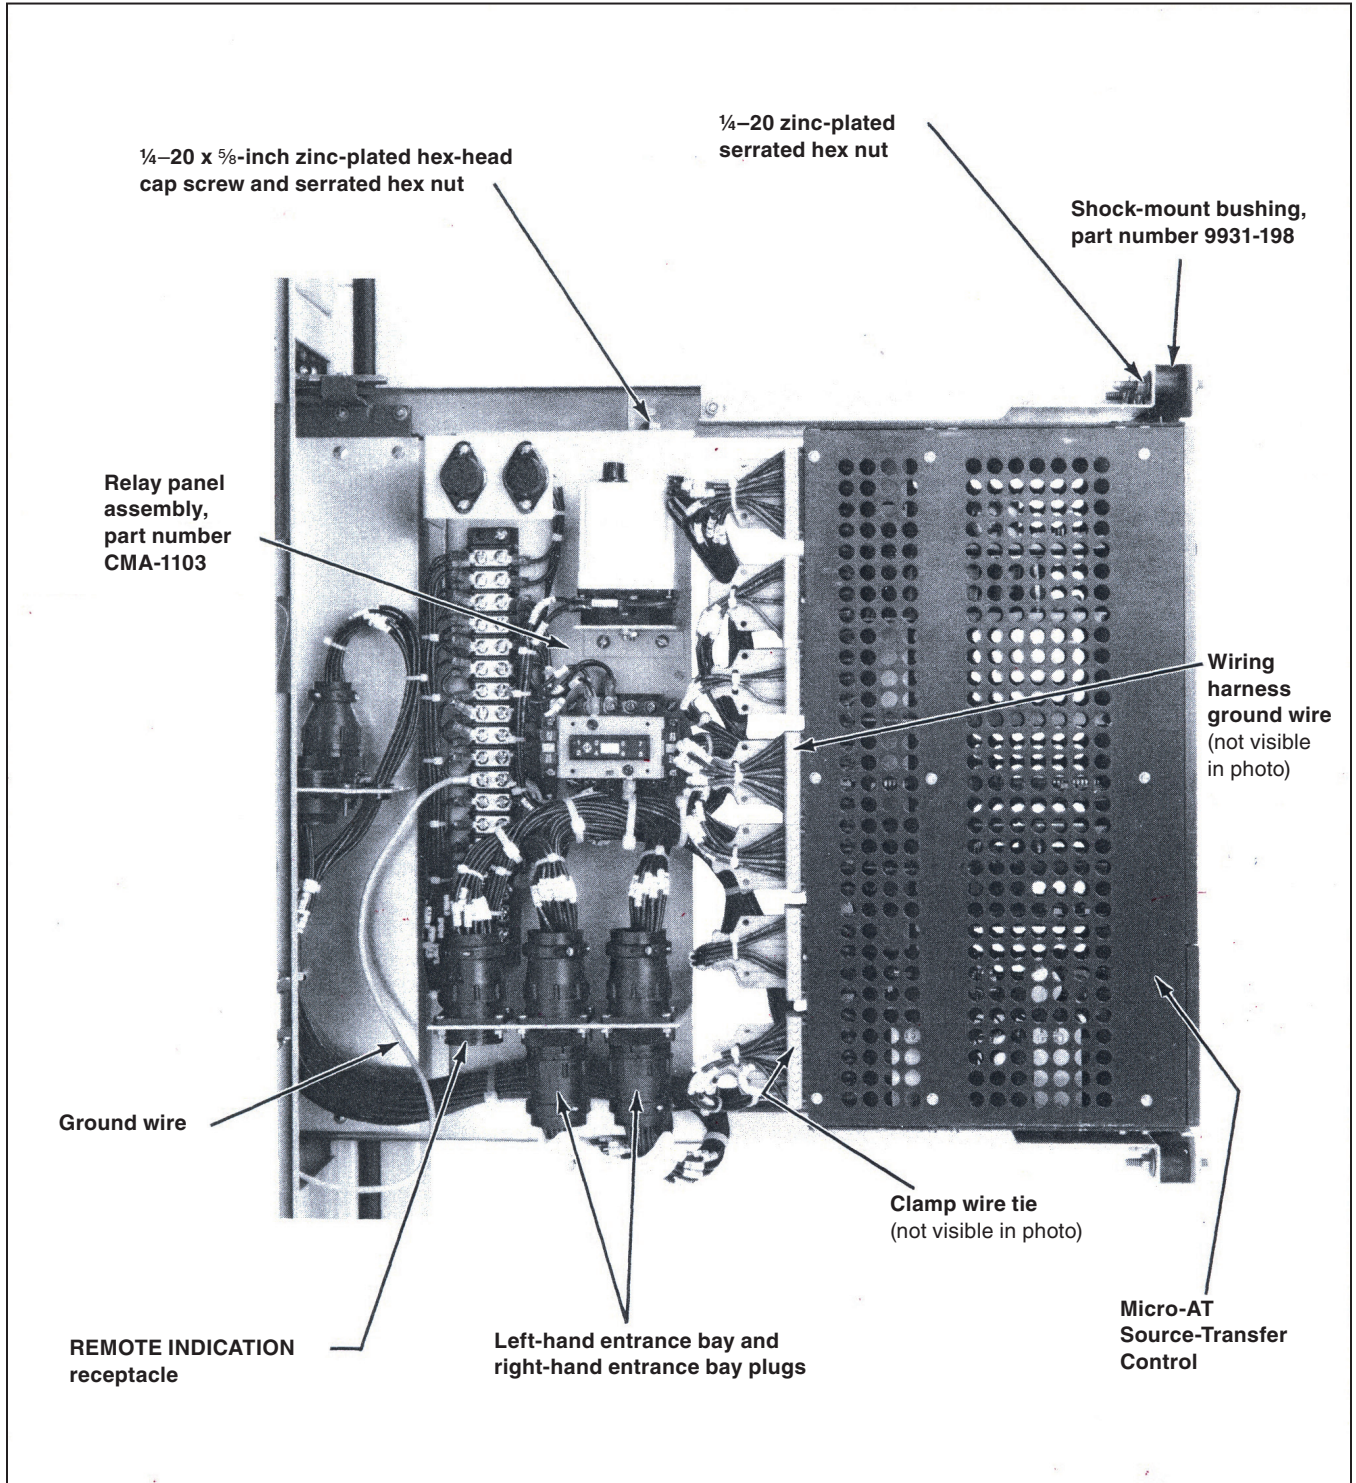

Figure 8. Installing a Micro-AT Source-Transfer Control and relay panel assembly.
STEP 5. Loosely attach two shock-mount bushings, part number 9931-198 (furnished in the retrofit kit), to the Top Support using two $\frac{1}{4}$ -20 zinc-plated serrated hex nuts (also furnished in the retrofit kit). See Figure 8 on page 13. Loosely attach two shock-mount bushings to the Bottom Support in the same manner.
Set the Micro-AT Source-Transfer Control into place and loosely attach the top mounting bracket and bottom mounting bracket to the shock-mount bushings using four $\frac{1}{4}$ -20 zinc-plated serrated hex nuts. See Figure 8 on page 13.
STEP 6. Attach relay panel assembly part number CMA-1103 to the upper and lower telescoping support rails using two $\frac{1}{4}$ -20 x $\frac{5}{8}$ -inch zinc-plated hex-head cap screws and serrated hex nuts. See Figure 8 on page 13. Securely tighten the cap screws.
STEP 8. Attach the ground wire, which was previously connected to the Type AT Source-Transfer Control enclosure, to terminal 10 or terminal 11 of the terminal block on the relay panel assembly. Then, attach wiring harness ground wire G4 to the back of the Micro-AT Source-Transfer Control enclosure using a #8 stainless steel flat washer, #8 lockwasher, and #8-32 hex nut (furnished in the retrofit kit). See Figure 8 on page 13 and Drawing RD-3612 Sheet 2 of 2 (also furnished in the retrofit kit).
STEP 9. Install each rectangular connector of the wiring harness in its corresponding receptacle on the back of the Micro-AT Source-Transfer Control enclosure, starting at the bottom. Attach each of the three clamp wire ties on the wiring harness to the Micro-AT Control enclosure using a #8 stainless steel flat washer, #8 lockwasher, and #8-32 hex nut (furnished in the retrofit kit). See Figure 8 on page 13 and Drawing RD-3612 Sheet 2 of 2 (also furnished in the retrofit kit).
- STEP 12.** The left-hand and right-hand entrance-bay plugs each have a white plastic key inserted into one of the pins; these keys must be removed and discarded. Use a pair of long-nose pliers to remove the keys. Then, connect the left-hand entrance-bay plug to its receptacle on the relay panel assembly and connect the right-hand entrance-bay plug to its receptacle on the relay panel assembly. See Figure 8 on page 13.
- STEP 13.** *If the Type AT Source-Transfer Control was furnished with the optional Remote-Indication feature, catalog number suffix “-AI:”* Connect the remote indication plug to its receptacle on the relay panel assembly. See Figure 8 on page 13.